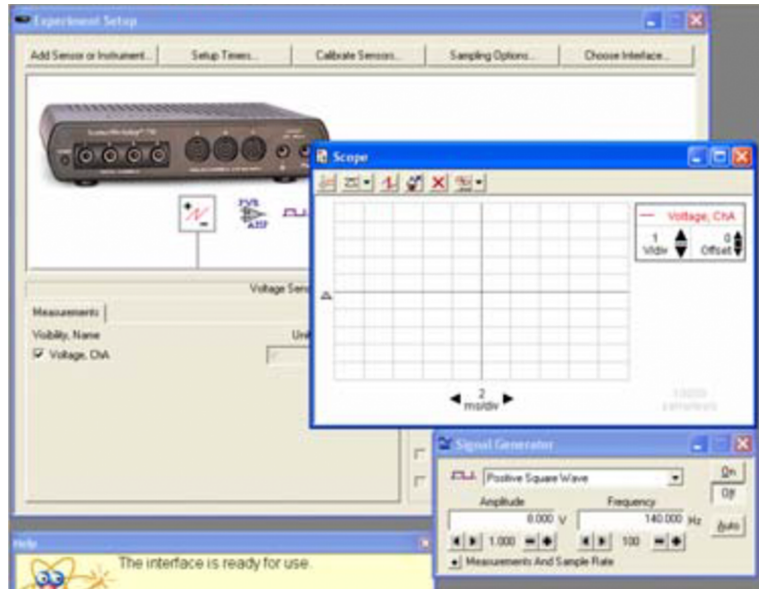

Figure 8: Opening screen of LR circuit file
- 5 Open the DataStudio file associated with this lab, which starts the DataStudio program. A screen similar to Fig. 8 is displayed.